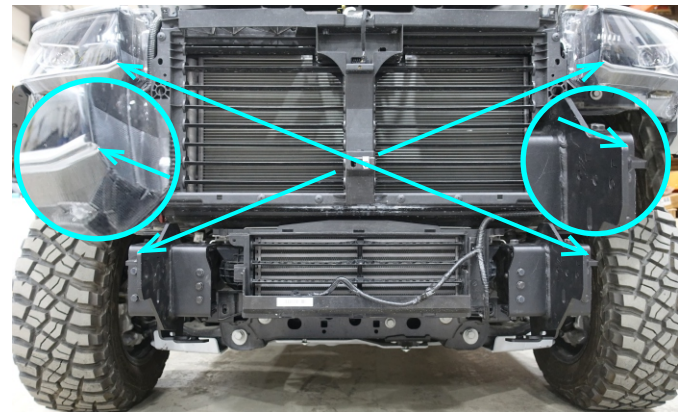

Fig.33
33. Make sure that the distance from the headlights to the opposite corners of frame brackets are the same (fig.33).